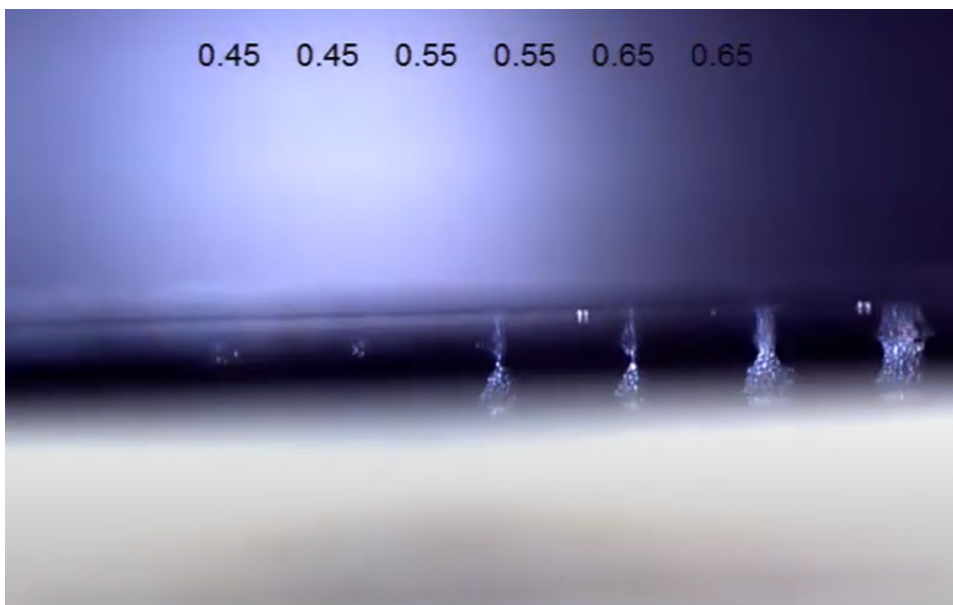

Figure 1. Solder paste release from stencil, side view.
How does solder paste find its way to the contact side of the stencil? By nature, solder paste sticks to both the PCB pad and the stencil. It does not fully release from the aperture upon separation, depending on the area ratio (AR) of the aperture. Very often, transfer efficiency (TE), or the amount of solder paste removed from the aperture, is less than 100%. The remaining paste often forms “strings” that snap back to the stencil’s contact side (**Figure 1**).